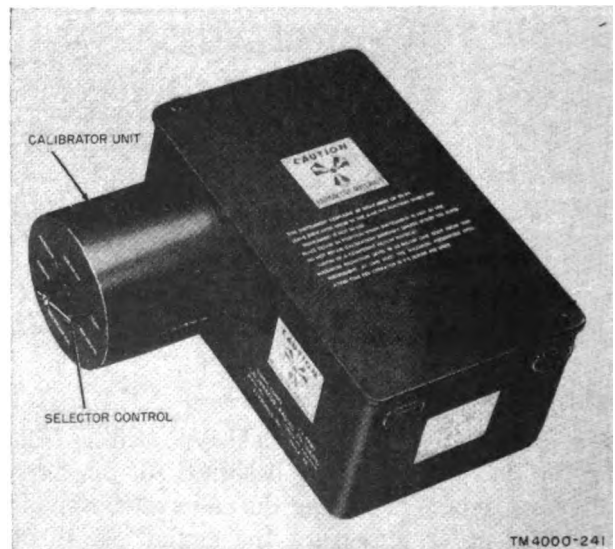

Figure 106. Field-type radiac calibrator.
a. Figure 106 shows a field-type radiac calibrator that was specially designed for one type of radiac set. When using the calibrator, remove the steel cover and place the radiac set to be calibrated inside the case. Therefore, the dis-